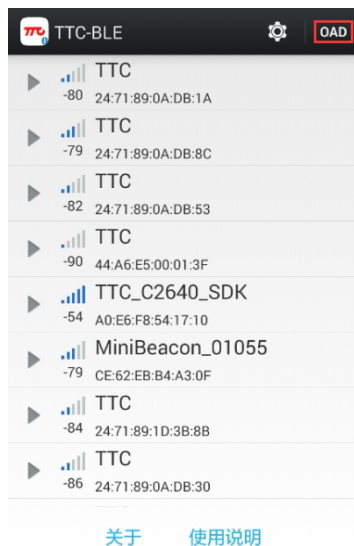

Figure 3-2-7 OAD mode instruction
- (3) open the APP, click OAD, enter the OAD mode, as shown in Figure 3-2-7;